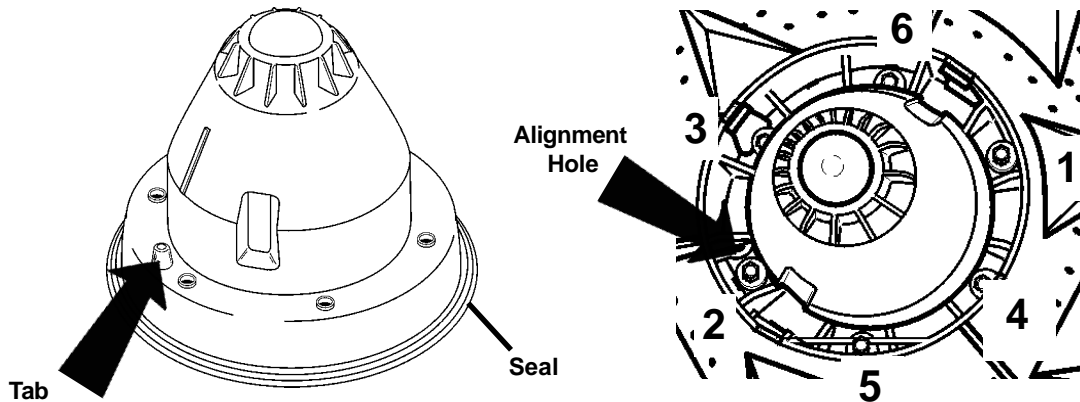

Fig. 3-20
- There is a tab on the outer ring of the inner wash plate that fits into a corresponding hole in the inner ring of the outer wash plate. Install the bolts in the order indicated in Figure 3-20. The proper torque setting for these bolts is 100 in. - lbs.